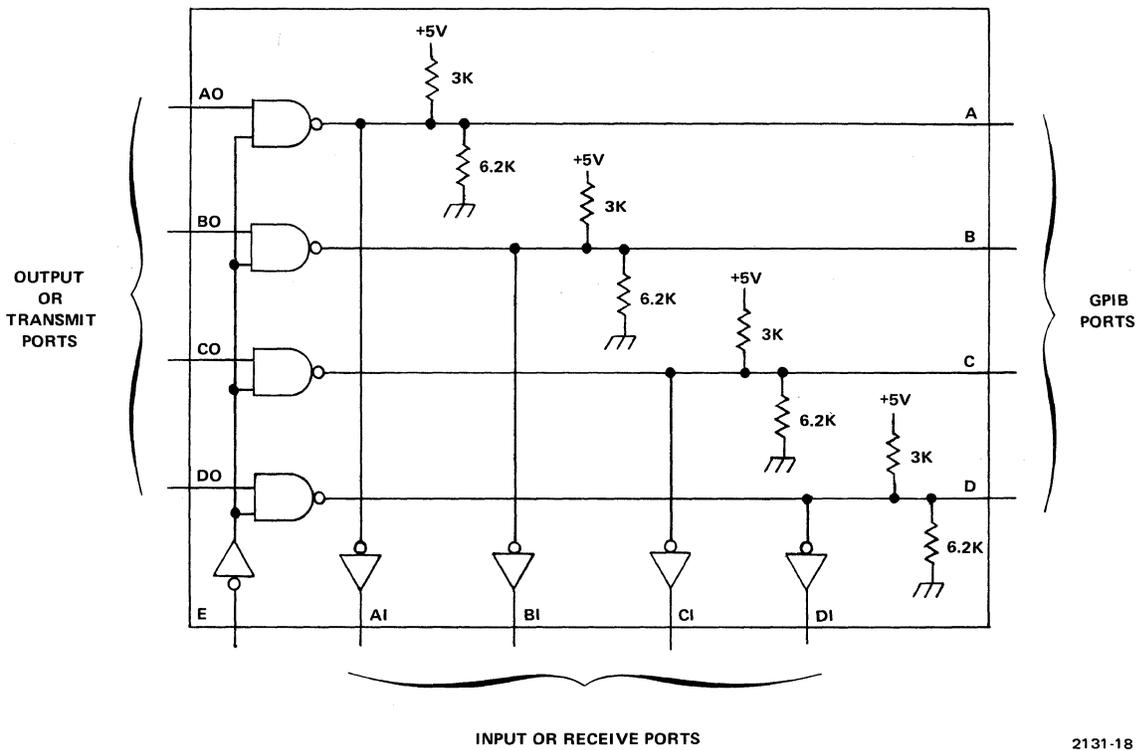

Fig. 5-8. GPIB Transceiver.
The Transfer Bus Transceiver (Schematic 1-2) provides interfacing to the three GPIB transfer bus lines DAV, NRFD and NDAC, and to one of the management bus lines, EOI. Its internal schematic is illustrated in Fig. 5-8. Each input or receive port (such as AI) at all times follows the signal presented to the corresponding GPIB port (A). An output or transmit port (such as AO) drives the GPIB line connected to its GPIB port with its open-collector driver only if the transceiver is enabled with a low at its enable input. The GPIB ports are active-low to conform with the GPIB standard, while the receive ports and transmit ports are active-high.